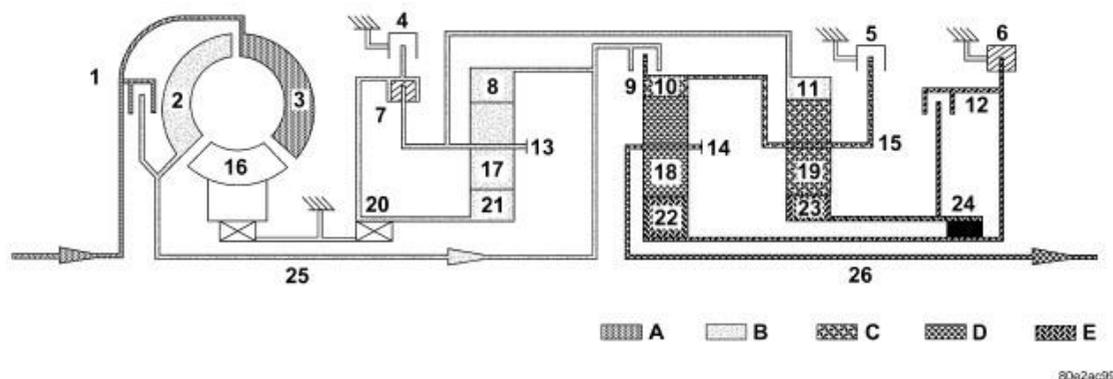
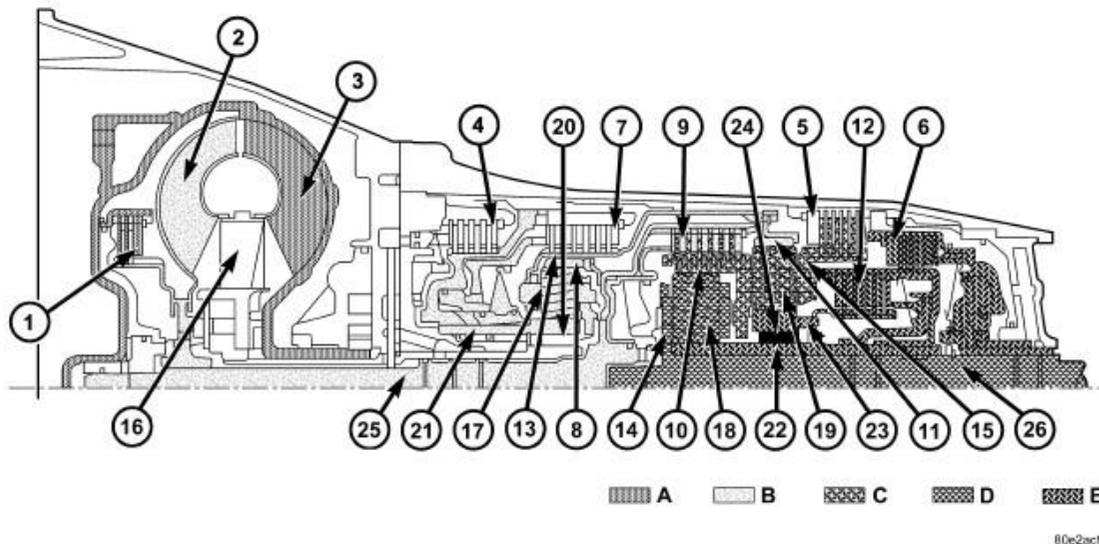

Fig. 4: Second Gear Powerflow (1 Of 2)
Fig. 5: Second Gear Powerflow (2 Of 2)
Torque from the torque converter is increased via the input shaft (25) and the center and rear planetary gearset and transferred to the output shaft (26). Refer to **Fig. 5** and **Fig. 4**.